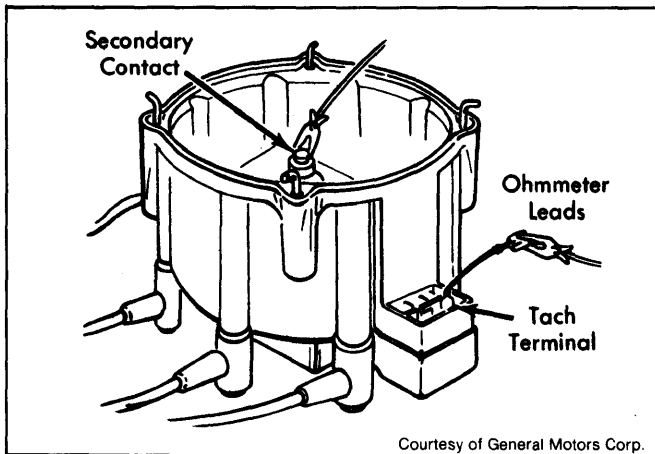

Fig. 3: Secondary Coil Test Connections
4) Connect one ohmmeter lead to "Tach" terminal and other lead to secondary contact. See Fig. 3. Reading should be infinity. If reading is not correct, replace coil.